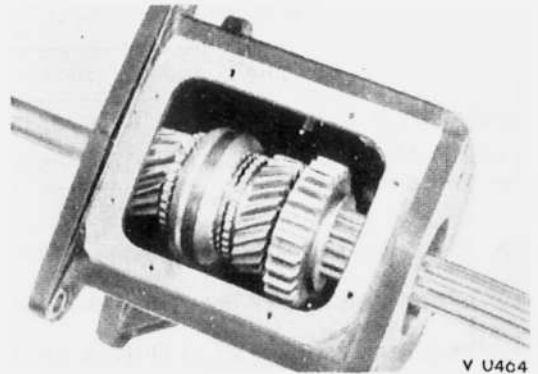

Fig. 3-45. Seating the spline shaft with attached parts in the transmission case.
5. Installing the clutch group of parts on the spline shaft, put in place the shaft through the case cover hole. (Fig. 3-45)